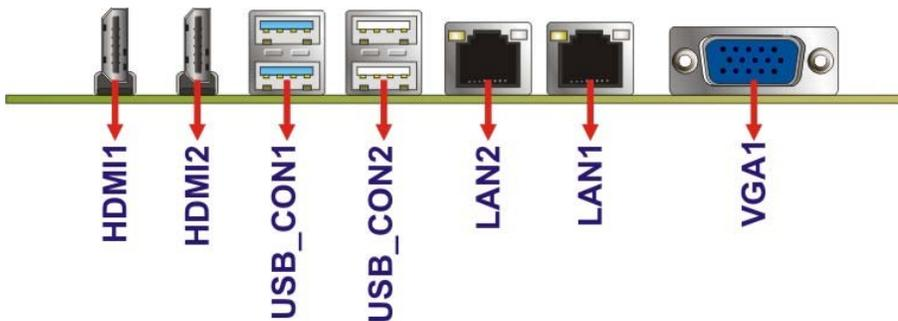

Figure 3-27: External Interface Connectors
The NANO-QM871-i1 on-board external interface connectors are shown in **Figure 3-27**.
- CN Location:** See **Figure 3-27**
| CN Location: | See Figure 3-27 |